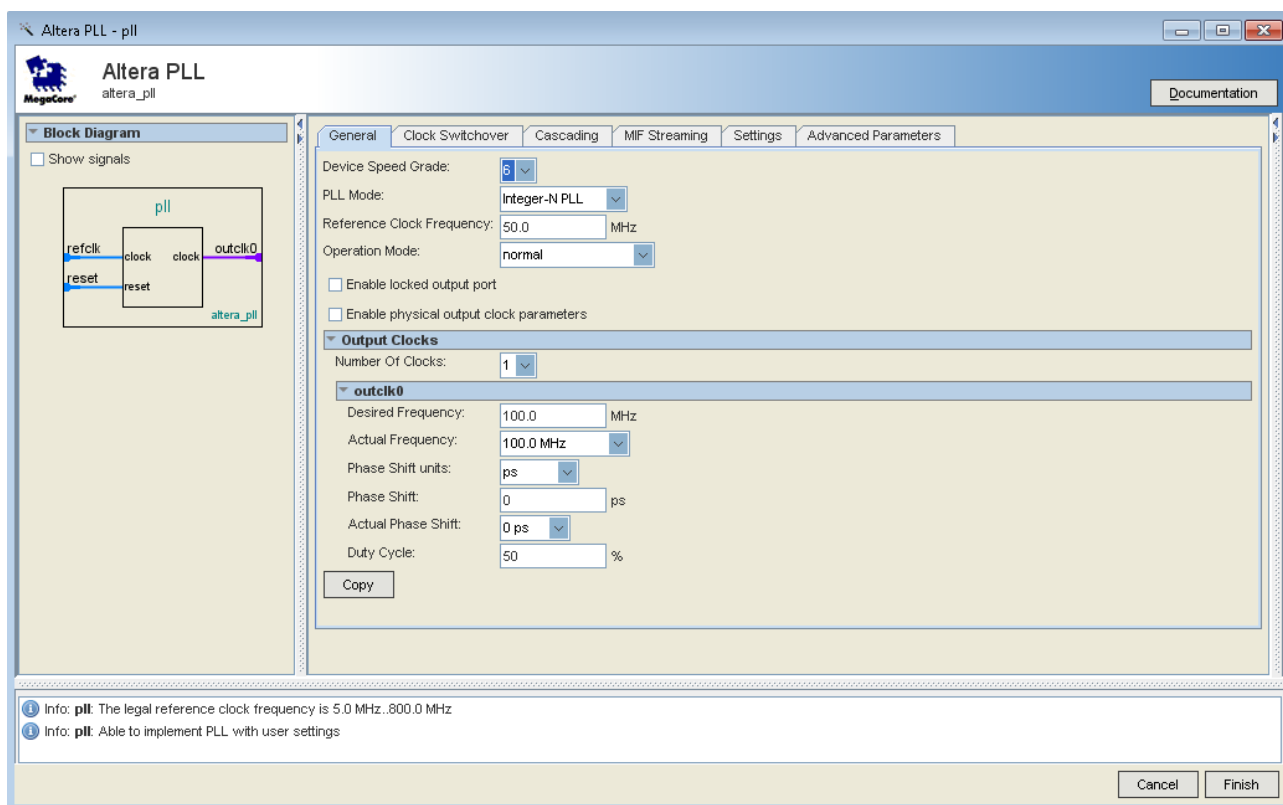

Figure 3-11 MegaWizard Plug-In Manager Selections
- Turn off the Enable locked output port option on MegaWizard . As you turn it off, pin disappear from the PLL block's graphical preview. See Figure 3-11 for an example.